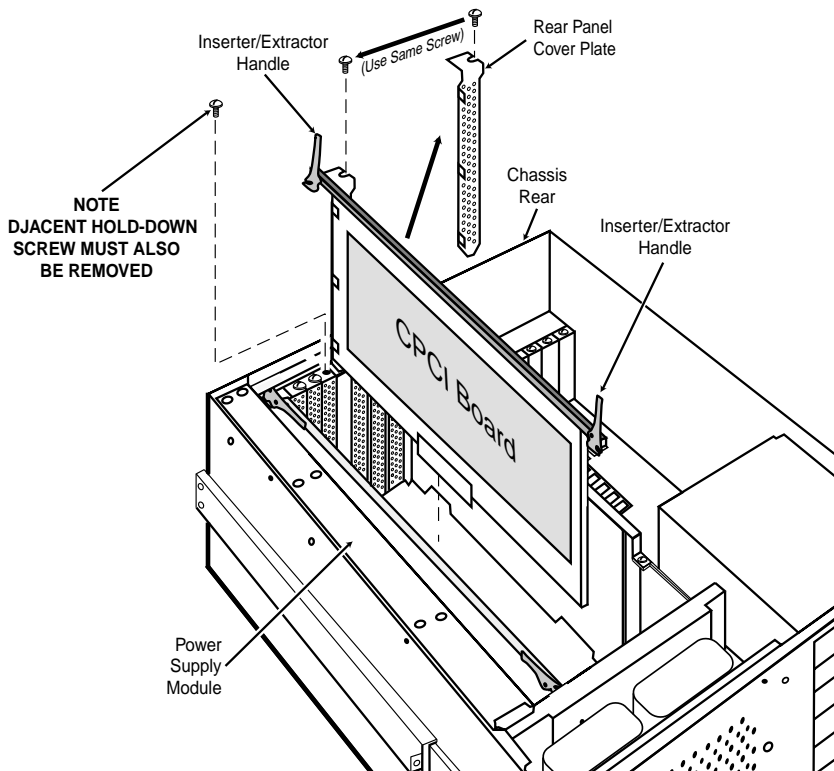

Figure 4-5. CPCI Board Removal/Replacement
- [] 1. Refer to Figure 4-5. Using an appropriate screwdriver, remove the hold down screw securing the Rear Panel Cover Plate where the new CPCI board will be installed. In addition, you must also remove the hold-down screw securing the adjacent Rear Panel Cover Plate. The hold-down screws overlap each Rear Panel Cover Plate. Retain both screws for CPCI Board installation, and retain the unused cover plate for possible future use.
- [] 1. Refer to Figure 4-5. Using an appropriate screwdriver, remove the hold-down screw securing the CPCI Board into its slot as well as the adjacent hold-down screw. The hold-down screws overlap each Rear Panel Cover Plate. Retain both screws for Rear Panel Cover Plate installation.